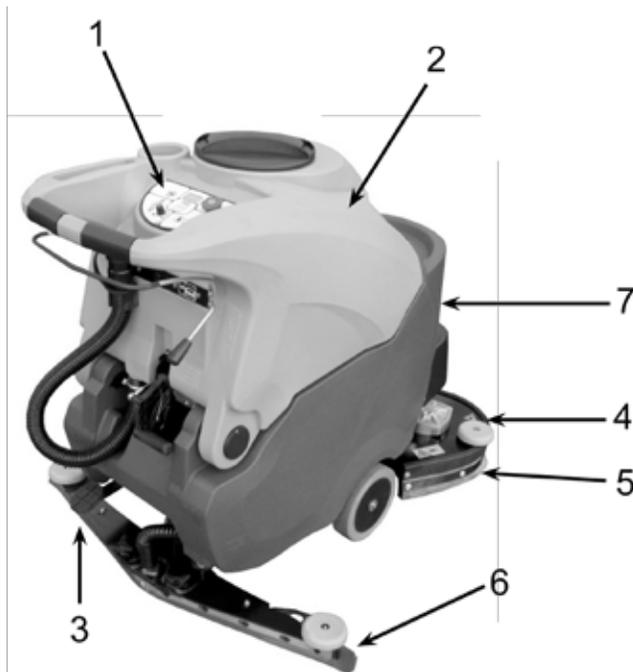
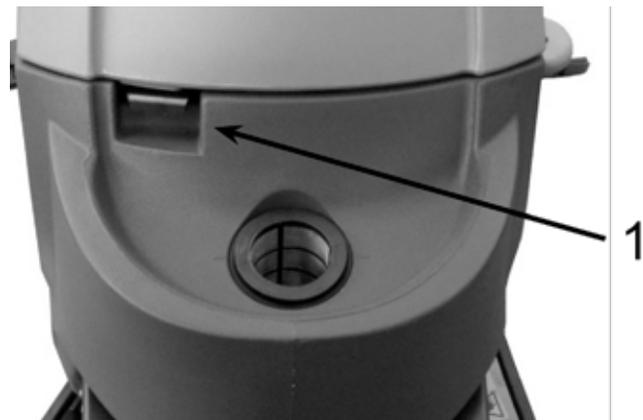

Fig.2
Fig.4
2. Release the dirty water drum (fig. 2, ref. 2) from the detergent tank (fig. 2, ref. 7) by pulling the catch (fig. 4, ref. 1). Lift the dirty water drum and tilt it backwards by about 90°. This provides access to the battery compartment (in the detergent tank) from above.
The squeegee (fig. 2, ref. 6) is responsible for the first phase of drying.